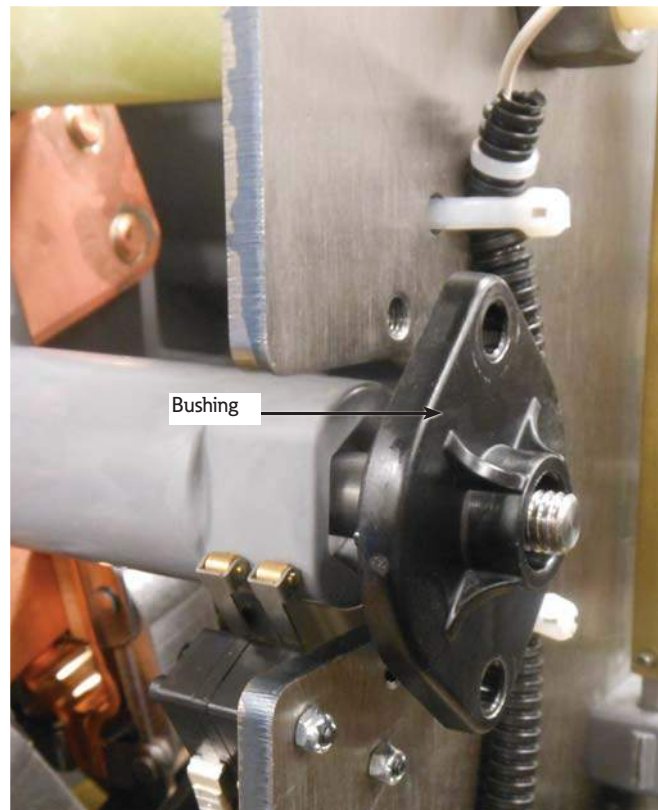

Figure 6. Removal of bushing
5. Remove the bushing from the reversing movable contact shaft. See Figure 6.